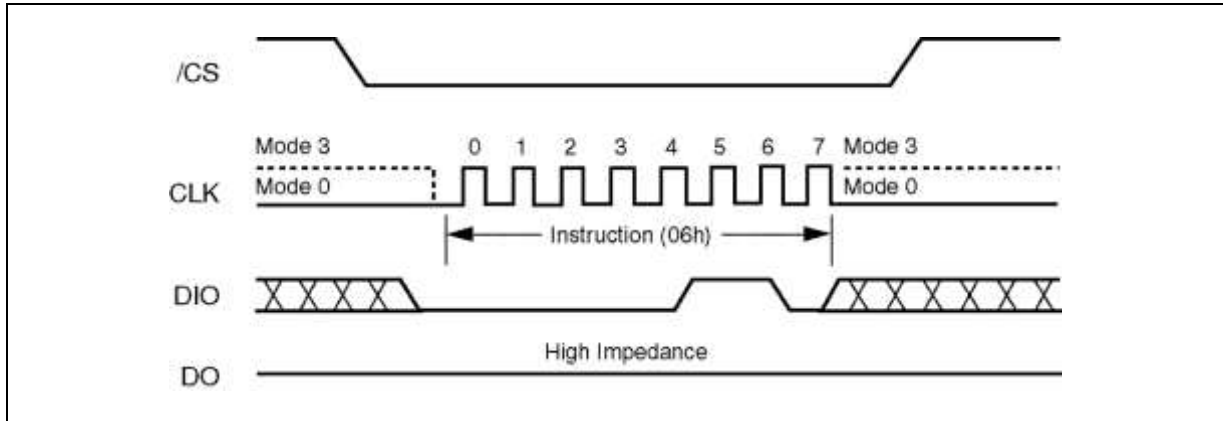

Figure 4. Write Enable Instruction Sequence Diagram
Instructions vary in length from a single byte to several bytes and may be followed by address bytes, data bytes, dummy bytes (don't care), and in some cases, a combination. Instructions are completed with the rising edge of edge /CS. Clock relative timing diagrams for each instruction are included in figures 4 through 24. All read instructions can be completed after any clocked bit. However, all instructions that Write, Program or Erase must complete on a byte boundary (CS driven high after a full 8-bits have been clocked) otherwise the instruction will be terminated. This feature further protects the device from inadvertent writes. Additionally, while the memory is being programmed or erased, or when the Status Register is being written, all instructions except for Read Status Register will be ignored until the program or erase cycle has completed.
The Write Enable instruction (Figure 4) sets the Write Enable Latch (WEL) bit in the Status Register to a 1. The WEL bit must be set prior to every Page Program, Sector Erase, Block Erase, Chip Erase and Write Status Register instruction. The Write Enable instruction is entered by driving /CS low, shifting the instruction code “06h” into the Data Input (DI) pin on the rising edge of CLK, and then driving /CS high.